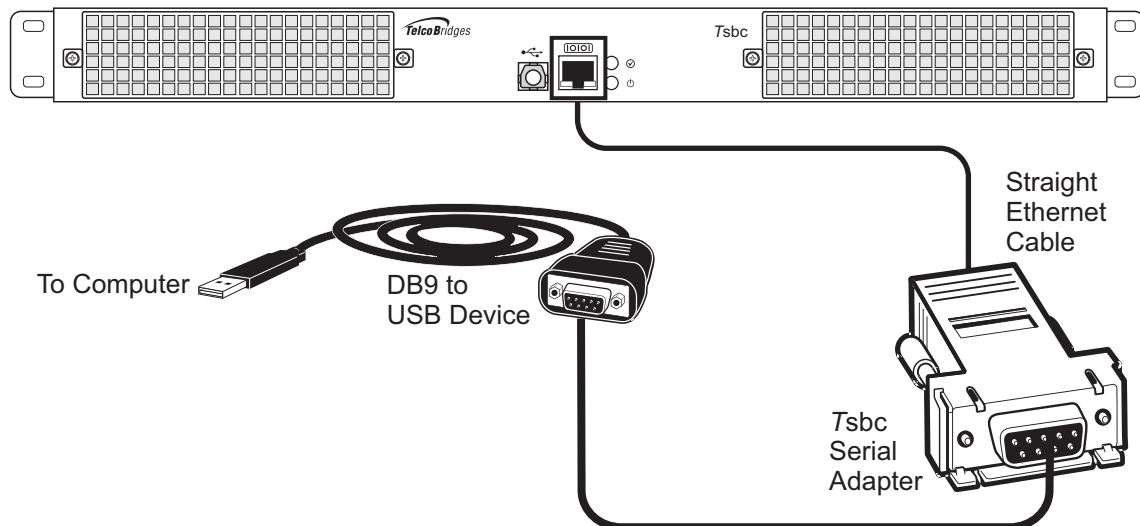

Figure 3.3 Conceptual View of a Serial Connection from the TSBC3000 Series to a Computer
2. If your computer's serial port features a DB9 connector connect directly otherwise use the *Tsbc* serial adapter supplied with your TSBC3000 series. If your computer's serial port features a USB connector, you will need to provide a USB to DB9 adapter. Refer to figure 3.3 on page 48.